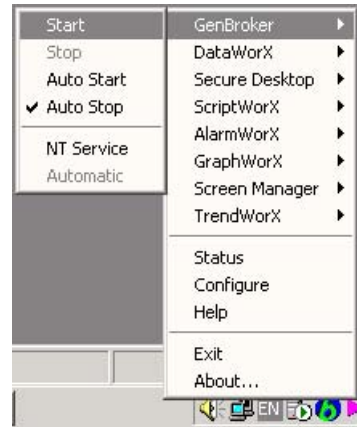

Figure 4.15. Starting the GenBroker Server on the Server Node
2. When GenTray opens, the triangle icon will appear in the Windows tool tray. Click on the triangle and select **GenBroker > Start** from the pop-up menu, as shown in **Figure 4.15**. This activates the GenBroker Server.